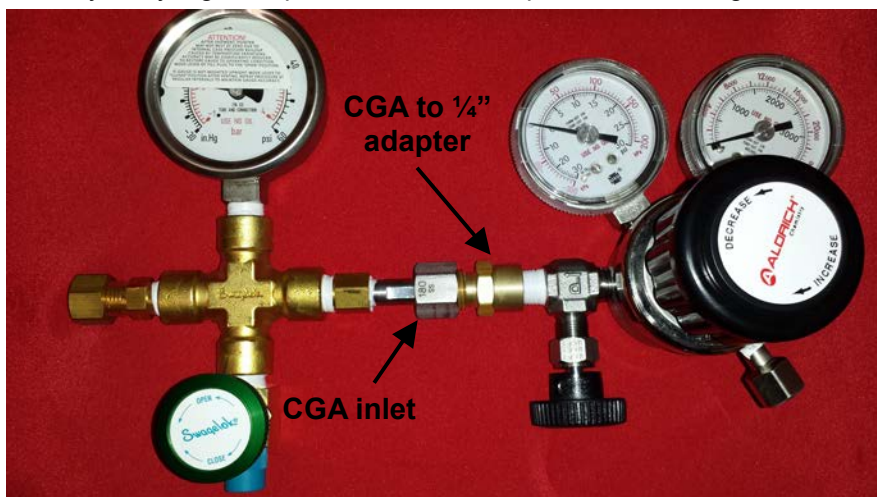

Figure 8.
3. Connect the right side (regulator valve side) of the gas regulator to the gas cylinder outlet connection. Make sure the PTFE gasket is in place but **Do Not** use PTFE tape. Tighten with a wrench (see Figure 8).
4. Insert the needle of a compressed "gas-tight" syringe into the septum of the syringe adapter (see Figure 8).